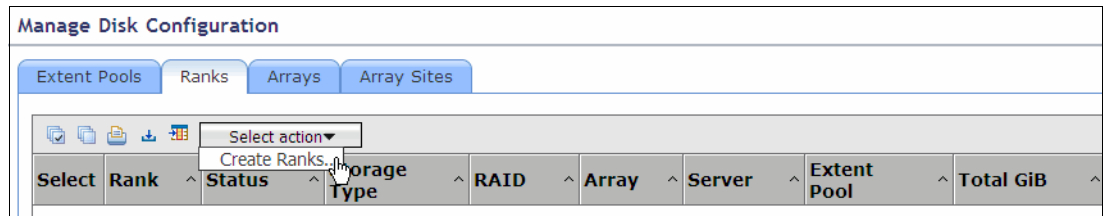

Figure 13-29 Select Create Ranks
1. In the DS GUI welcome window, from the My Work section, expand **Configure Storage** and click **Disk Configuration**. This brings up the Disk Configuration window shown in Figure 13-28 on page 315. Click the **Ranks** tab to start working with ranks. Select **Create Rank** from the Select action drop-down menu, as shown in Figure 13-29.